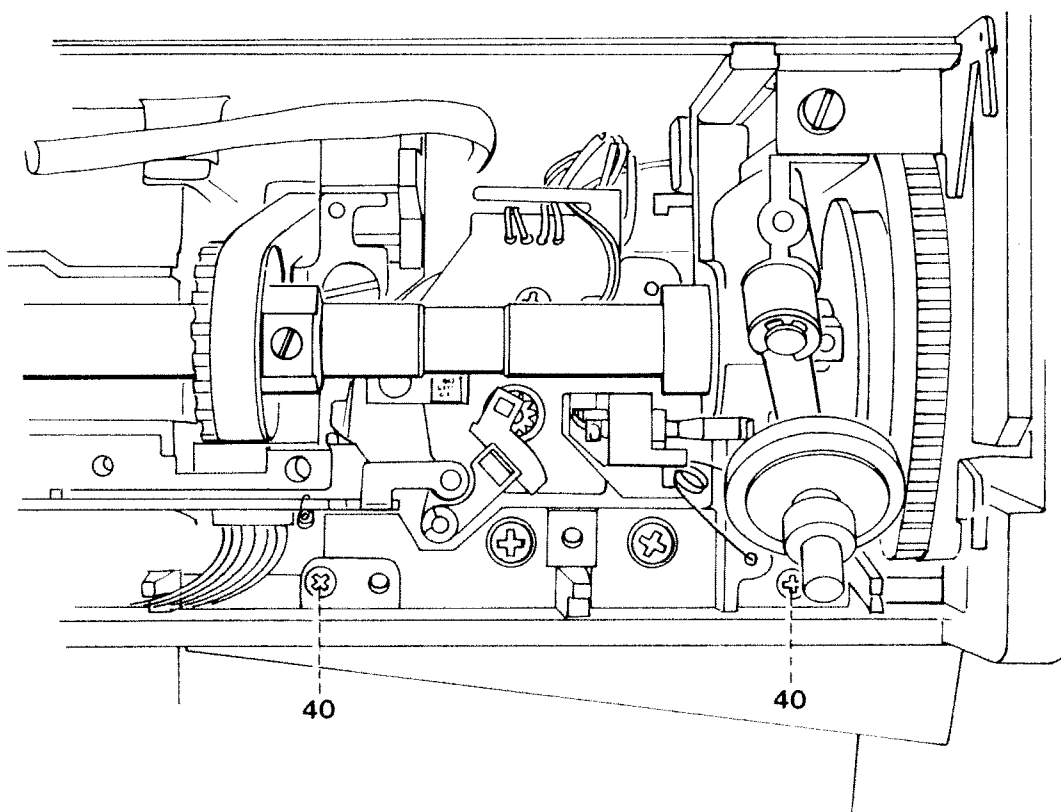

Fig. 30
- Unscrew the two screws 40 (Fig. 30).